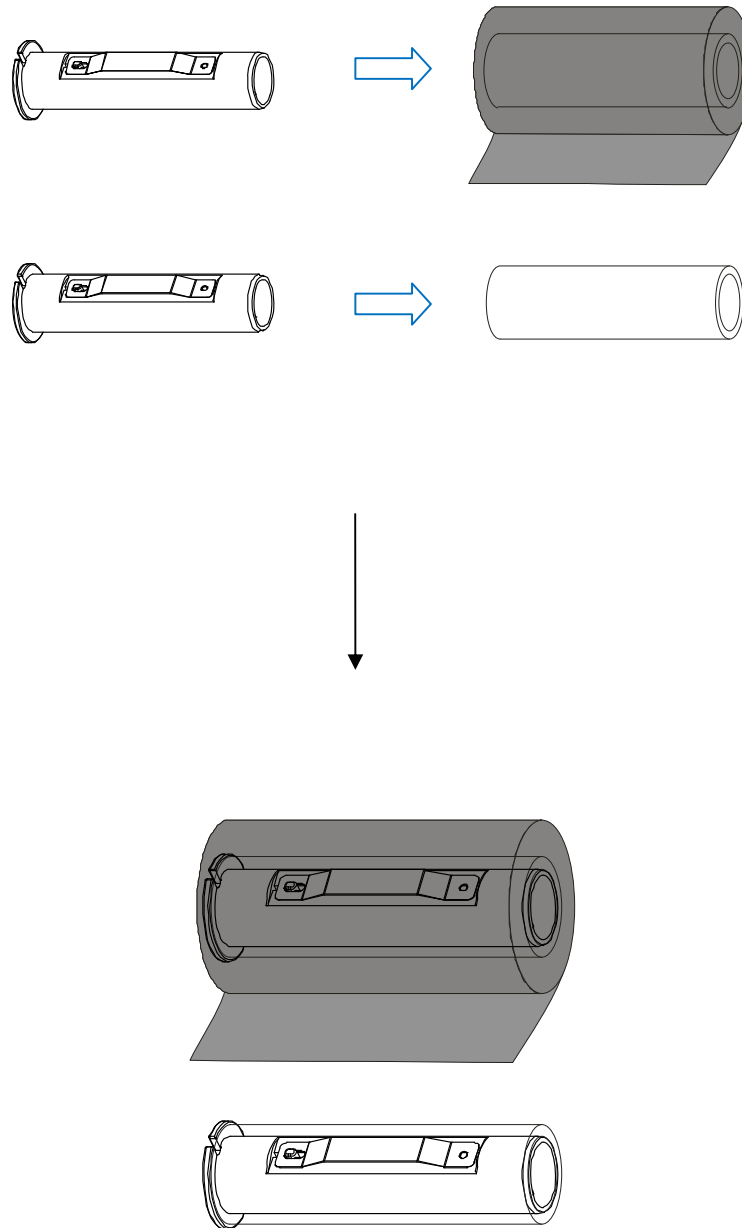

Figure 5-3
4. Unwrap the ribbon roll pack and separate the ribbon roll and the core. (see Figure 5-3)
5. Slide the roll of Ribbon onto one of one Ribbon Spindle. (see Figure5-3)
7. Slide the ribbon take up core onto the other Ribbon Spindle. (see Figure 5-3)